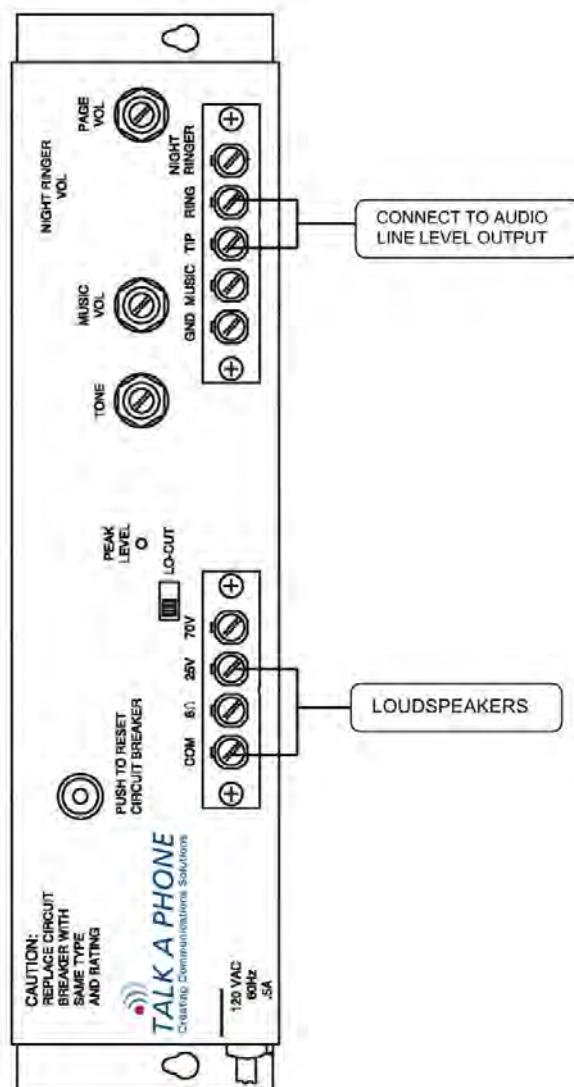

Figure 1. WEBS-WM Paging Amplifier Wiring Schematic.
7. The 120VAC model **ETP-EL** (polycarbonate base) Blue Light can be connected to the 120VAC output voltage of the power source. If using the **ETP-EL12/24** (polycarbonate base) Blue Light, connect the power cable to either the 12-24VDC or the 24VAC output voltage of the power source (shown in **Figure 1**).
9. The amplifier and horns are installed inside the unit prior to shipment. The horns should be wired to the 8 Ohm speaker terminals. Connect the Amplifier Input TIP and RING to the Audio Line Level Output of either the VOIP-500 Series Emergency phones, WEBS-CM-2 or the WEBS-ZPS as shown in **Figure 1**.